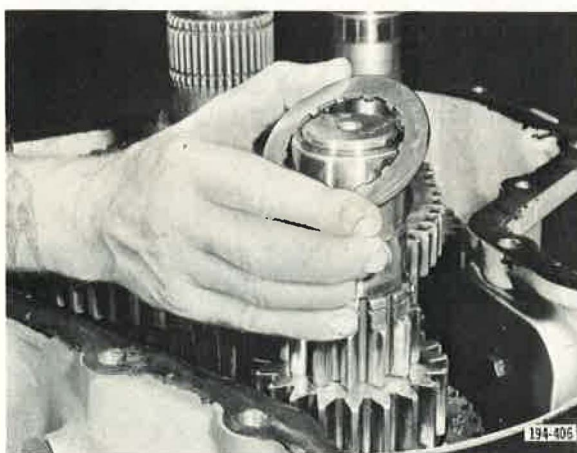

Figure 52. Installing Countershaft Selective Thrust Washer
15. Install front countershaft selective thrust washers on the three countershafts and retain them with their snap rings. See Figures 52 and 53.